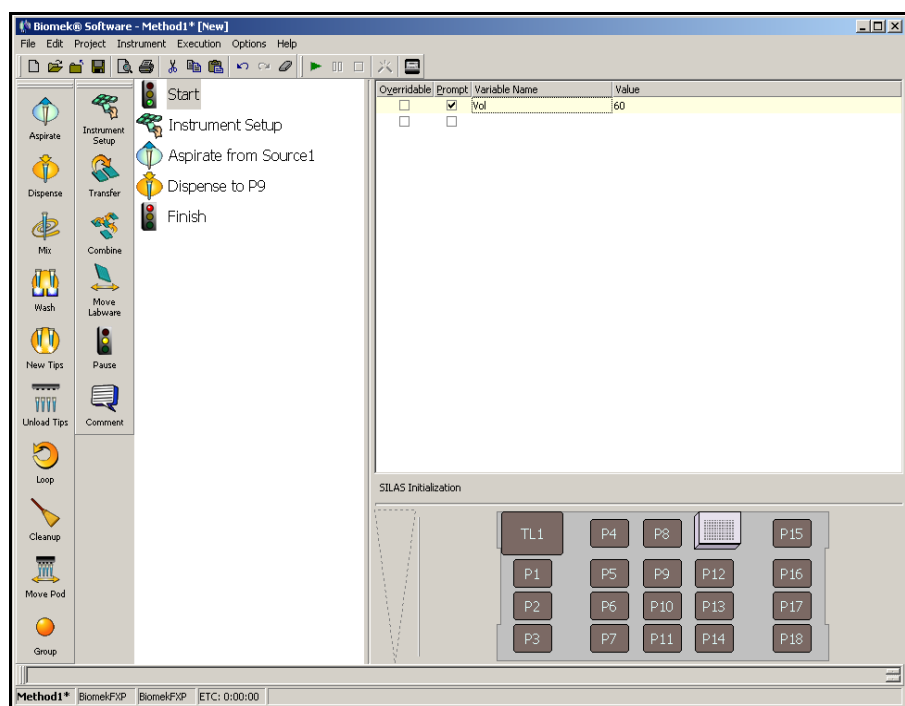

Figure 3-6. Prompting for value of a variable
2. Select the **Prompt** check box for the variable Vol. Your **Start** configuration should now look like Figure 3-6.